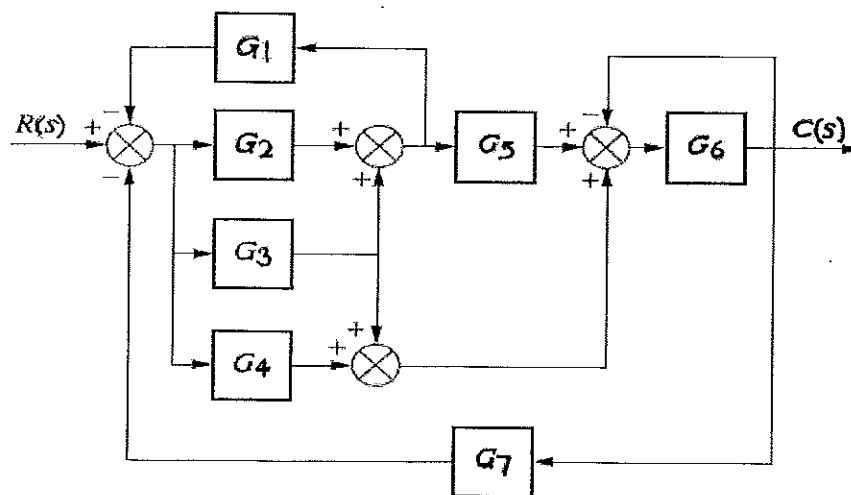

Figure. Q05
Compute the transfer function of the block diagram shown in Figure Q05 in following two cases.
- Label signals and draw a signal-flow graph for each of the block diagram shown in the Figure Q05.